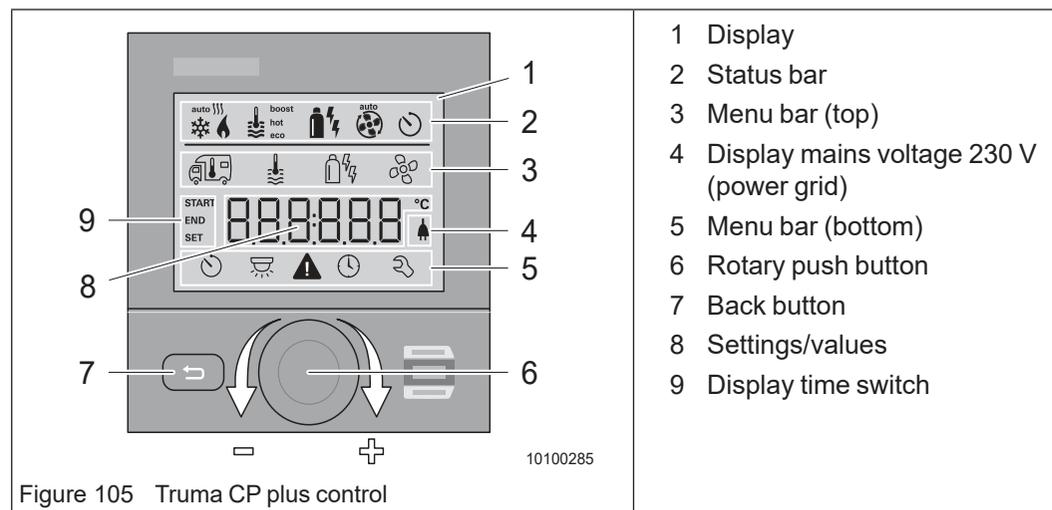

Figure 105 Truma CP plus control
- ➔ Turn the rotary push button (Figure 105/6) to the required menu to the right or left.
- ➔ Use the Back button (Figure 105/7) to return to the previous menu or the previous display.
- ➔ Press the rotary push button (Figure 105/6) for more than 4 seconds.